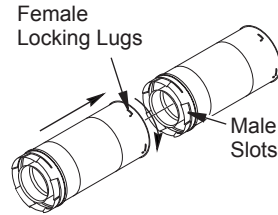

Figure 9 - Vent Pipe Connections
**Twist-Lock Procedure:** Female ends of pipes have locking lugs (indentations). These lugs will slide straight into matching slots on male ends of adjacent pipes. Push pipe sections together and twist one section clockwise approximately one-quarter turn until sections are fully locked (see Figure 9).
etrated is constructed of noncombustible material, such as masonry block or concrete, a 8 1/2" hole with zero clearance is acceptable (see Figure 9).
2. Assemble desired lengths of pipe and elbows necessary to reach from fireplace flue up through firestop. Be sure all pipe and elbow connections are fully twist-locked (see Figure 9, page 11).